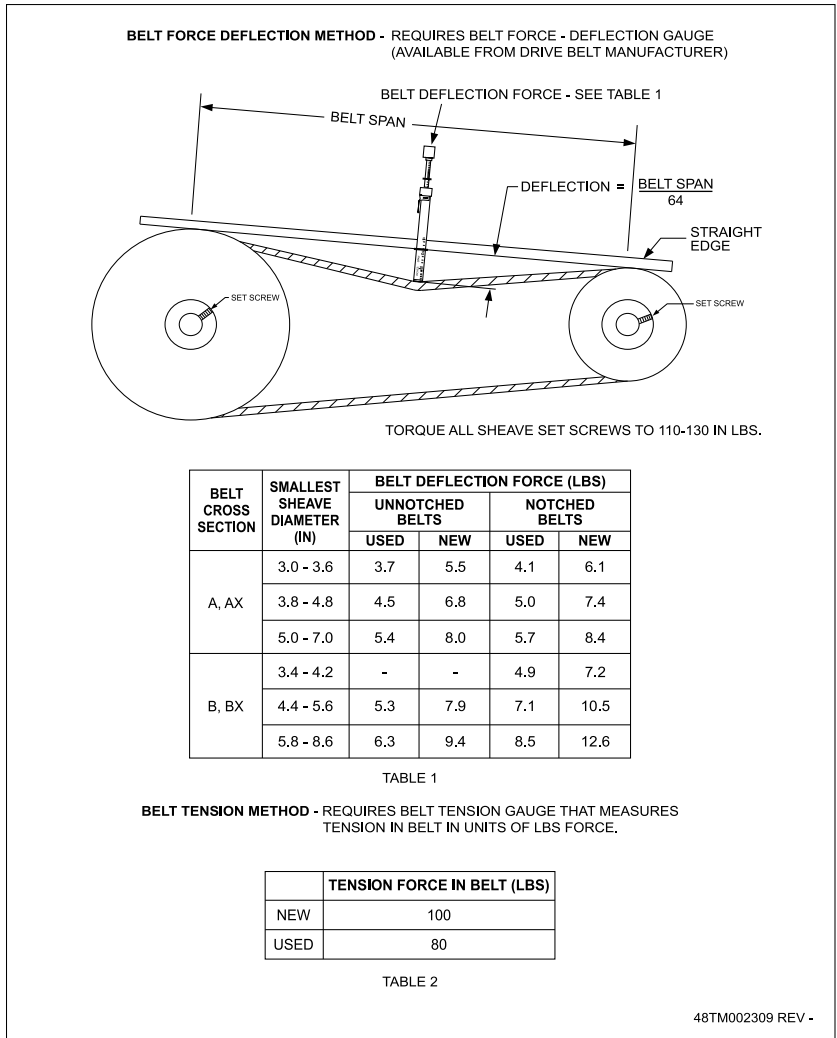

Fig. 89 - V-Belt Force Label
Measure the belt span length as shown in Fig. 89. Calculate the required deflection by multiplying the belt span length by $\frac{1}{64}$. For example, if the belt span length is 32 inches: $32 \times \frac{1}{64} = \frac{1}{2}$ inch deflection.
2. Set the tension gauge to the desired tension (see Table 1 in Fig. 89). Place the large O-ring at that point.